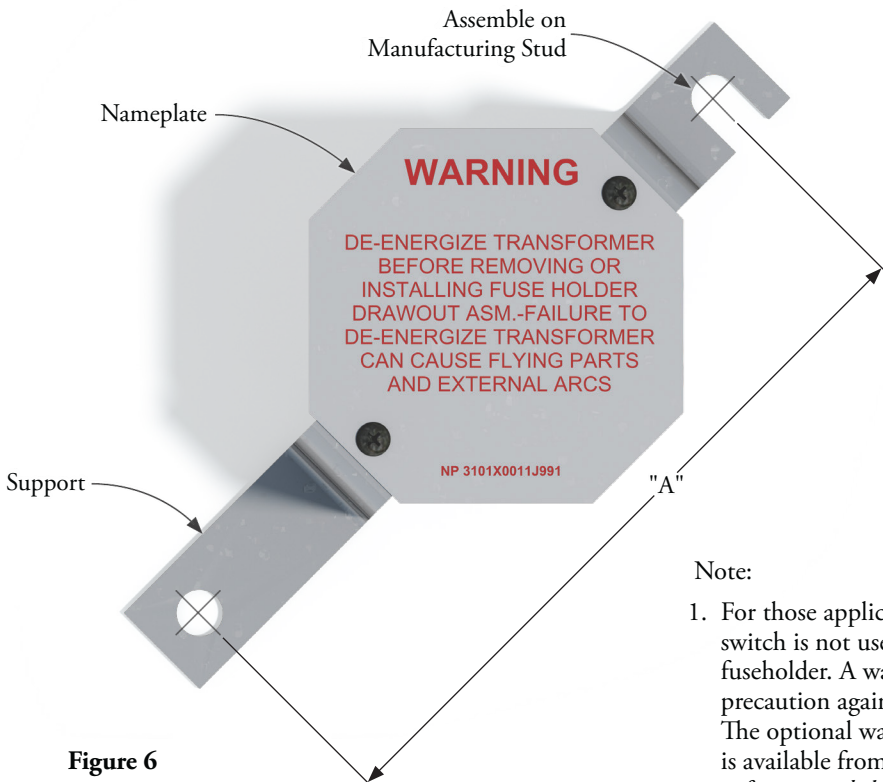

Figure 6
For those applications where an interlocked loadbreak switch is not used in conjunction with the non-loadbreak fuseholder, an important feature of the non-loadbreak fuseholder is an integral warning nameplate to warn against operation while energized, and safety support that must be moved to gain access to the fuse (see Figure 6 on page 4). This optional warning nameplate assembly is available from ERMCO Components, Inc.
- For those applications where an interlocked loadbreak switch is not used in conjunction with the non-loadbreak fuseholder. A warning nameplate should be used as a precaution against energized operation of the fuseholder. The optional warning nameplate (w/bracket), shown on page 4, Figure 6, is available from ERMCO Components Inc. (7559ZC2099)
- For those applications where an interlock loadbreak switch is not used in conjunction with the non-loadbreak fuseholder. A warning nameplate should be used as a precaution against energized operation of the fuseholder. The optional warning nameplate (w/bracket), shown on page 4, Figure 6, is available from ERMCO Components Inc. (7559ZC2199).